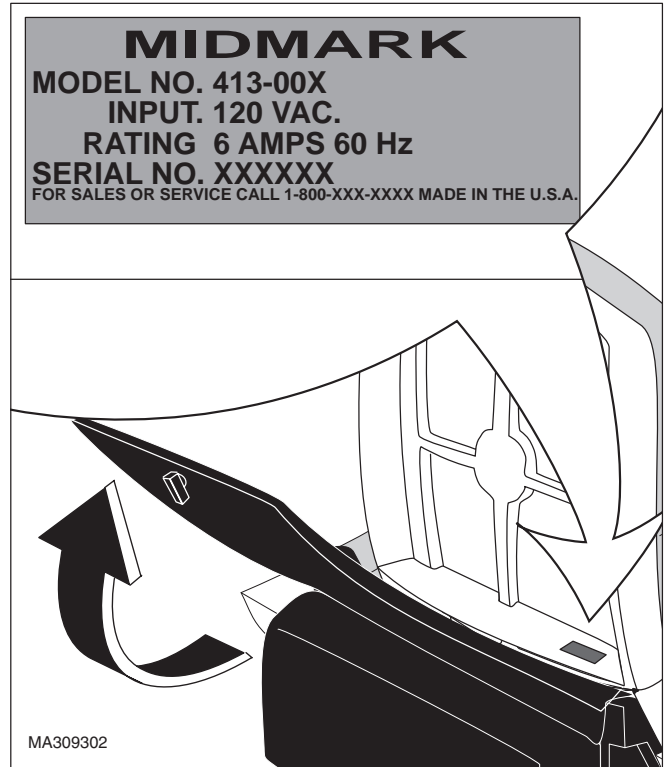

Figure 1-3. Model Number / Serial Number Location
- (1) Refer to Figure 1-3 to determine the location of the model number and serial number of the chair and record this data.
- (2) Refer to the Parts List to determine the item numbers of the parts, part numbers of the parts, descriptions of the parts, and quantities of parts needed and record this data (Refer to para 6.1).